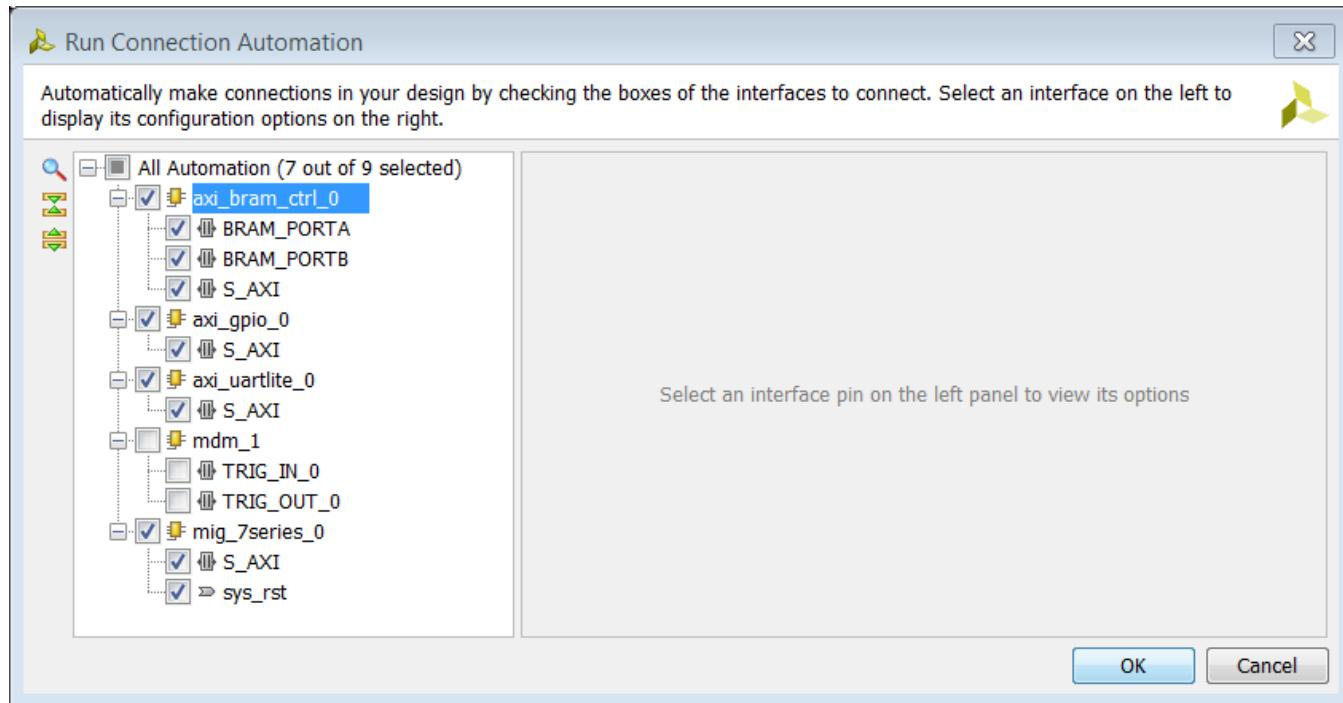

Figure 112: Run Connection Automation Dialog Box
2. Check the interfaces in the left pane of the dialog box as shown in Figure 112.